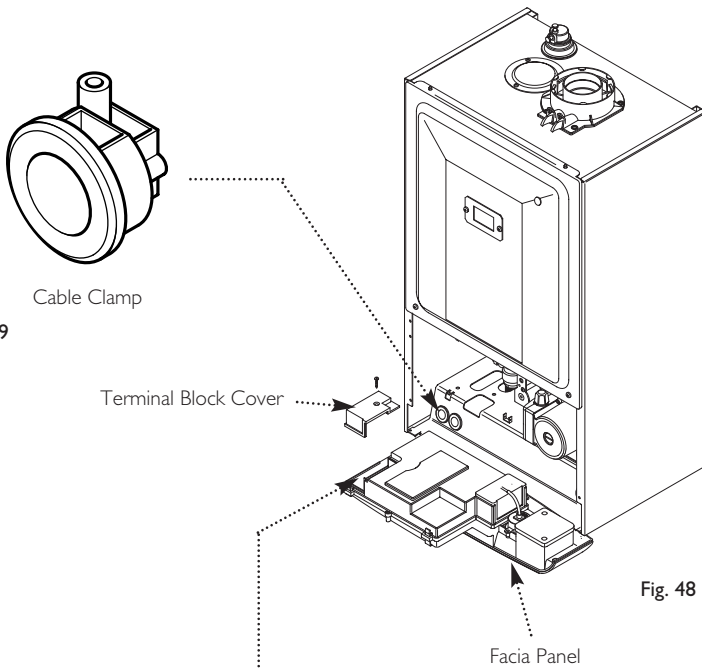

Fig. 49
4. Slacken the unused cable clamp on the LH side of the boiler chassis (Fig. 49). Insert the external control wiring through the clamp and route it to the terminal block.